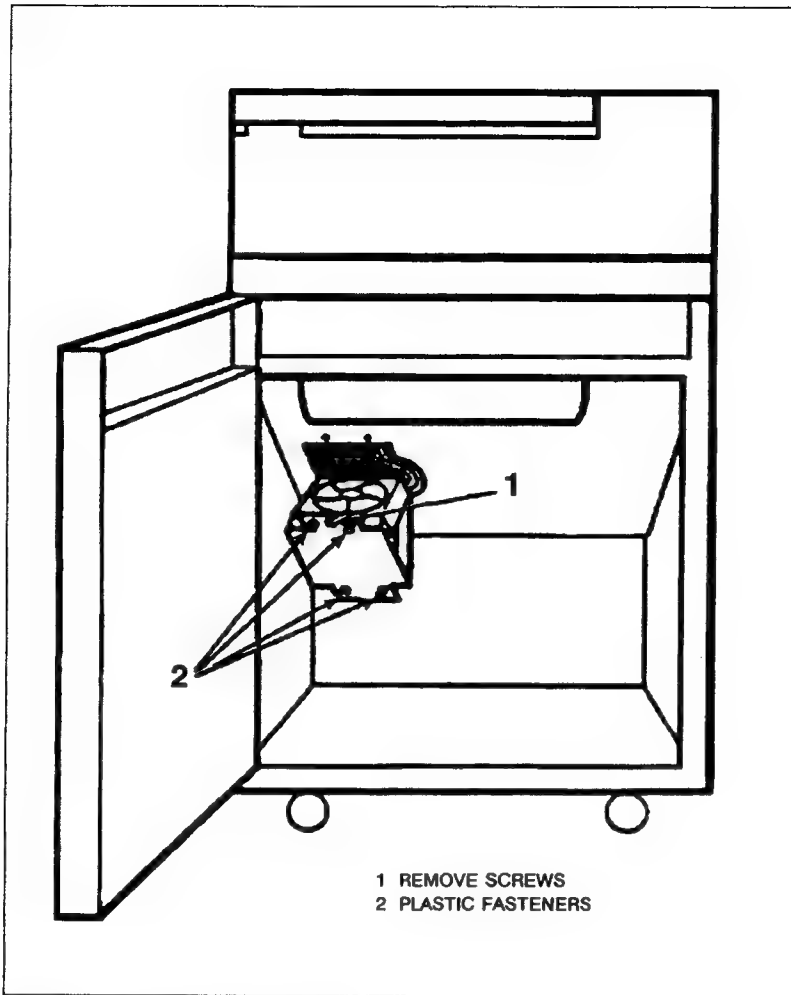

Figure 6-19. Lower Fan Removal
The lower fan is located inside the cabinet under the printer (cabinetized printers only - see Figure 6-19).
- c. Remove the single screw from the lower fan cover/bracket (Figure 6-19, item 1) and pull out on the four plastic fasteners to release the fan (Figure 6-19, item 2).